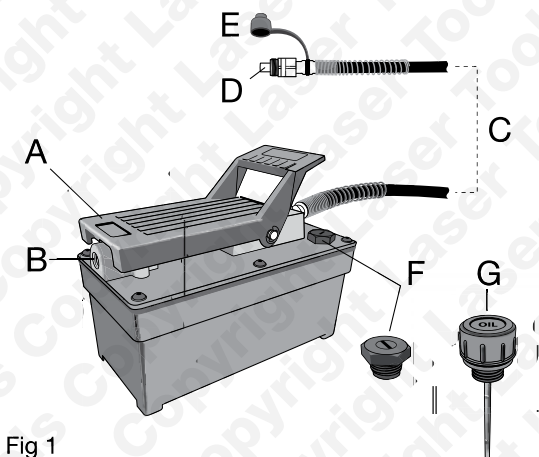

Fig 1
Refer to Figure 1: Seal the external pipe connections - compressed air inlet adaptor to air inlet port (B) and high pressure oil line (C), with high quality thread sealant or PTFE tape. If using tape, apply carefully, ensuring the first two threads are free of tape, to prevent any tape material entering and contaminating the hydraulic system.
**Refer to Figure 1:** Connect the hydraulic coupling **(D)** to the corresponding coupling on the cylinder/attachment. Ensure that both couplings are completely clean so that no dirt can enter the system.